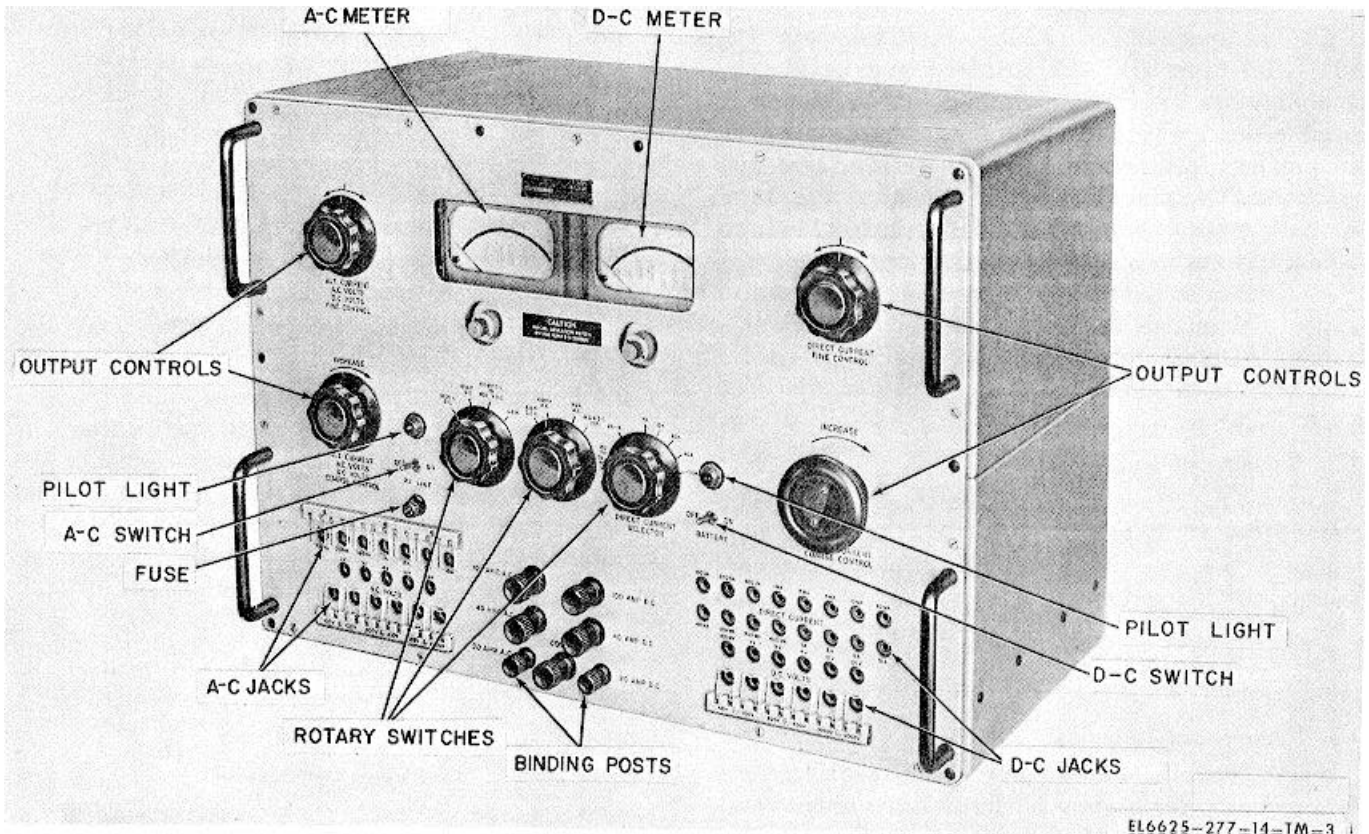

Figure 1-3. Meter Test Set TS-682/GSM-1, front view.
a. *Meter Test Set TS-682/GSM-1 (fig. 1-3)*.
(1) The meter test set contains two indicating meters: one for ac voltage and current measurements and one for dc voltage and current measurements. These meters are mounted adjacent to each other on the upper portion of the front panel. Three rotary switches, mounted below the meters on the panel, permit the selection of the appropriate meter ranges for both ac and dc measurements. All ac designations, including the meter markings, are in purple-blue.
(2) Four variable output controls are located on the front panel: a fine and a coarse control for dc adjustments, and a fine and a coarse control for ac adjustments. In addition, the front panel contains sufficient binding posts and jacks for all current and voltage ranges.
(3) Two primary power switches, one for ac and one for dc, are located on the front panel. Two pilot lamps indicate when primary power is applied, and